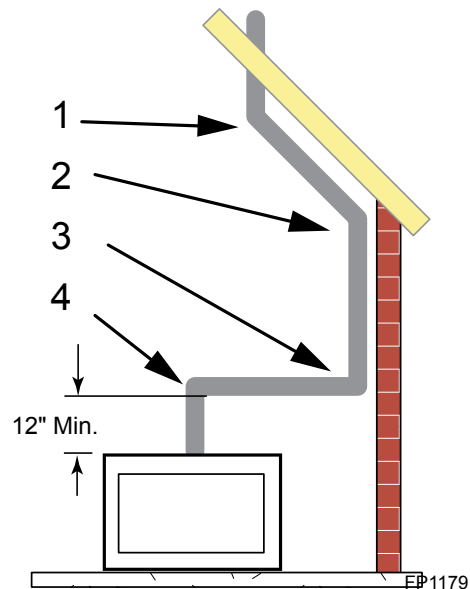
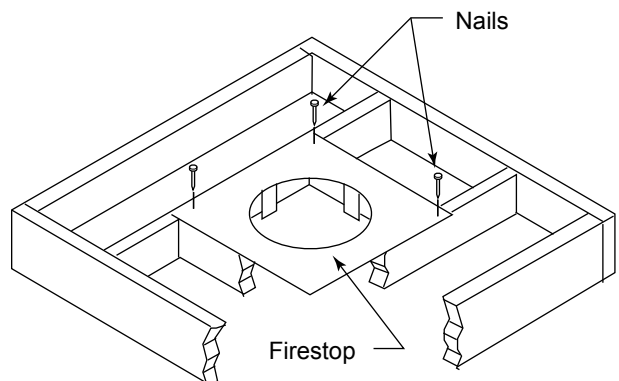
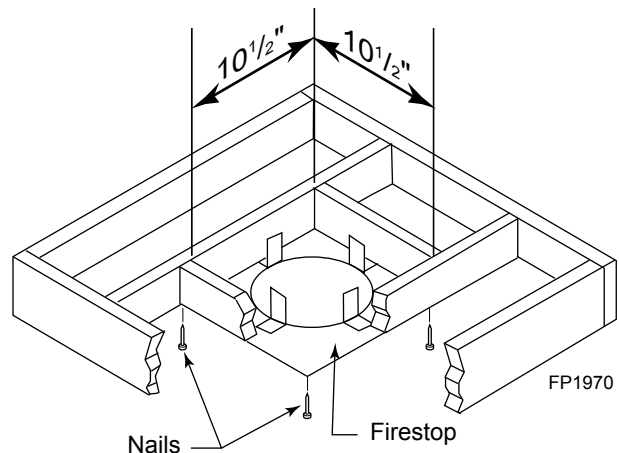

Figure 21 - Maximum Elbow Usage
Figure 23 - If Area Above is a Room, Install Firestop above Framed Hole as Shown
Figure 24 - If Area Above is Not a Room, Install Firestop below Framed Hole as Shown
- Two sets of 45° elbows offsets may be used within the vertical sections. From 0 to a maximum of 8' (2.5 m) of vent pipe can be used between elbows. *Figure 21*
- The maximum angular variation allowed in the system is 270°. *Figure 21*
NOTE: Pay special attention to these installation instructions for required clearances (air space) to combustibles when passing through ceilings, walls, roofs, enclosures, attic rafters, etc. Do not pack air spaces with insulation. Also note maximum vertical rise of the venting system and any maximum horizontal offset limitations. Offsets must fall within the parameters shown in Figures 21 and 22.
1. Cut a 10½" (241 mm) square hole in the ceiling using the locating hole as a center point. The opening should be framed to 10½" x 10½" (241 x 241 mm) inside dimensions as shown in Figure 21 using framing lumber the same size as the ceiling joist. If the area above the ceiling is an insulated ceiling or a room, nail firestop from the top side. This prevents loose insulation from falling into the required clearance space. Figure 23. Otherwise, install firestop below the framed hole. Figure 24